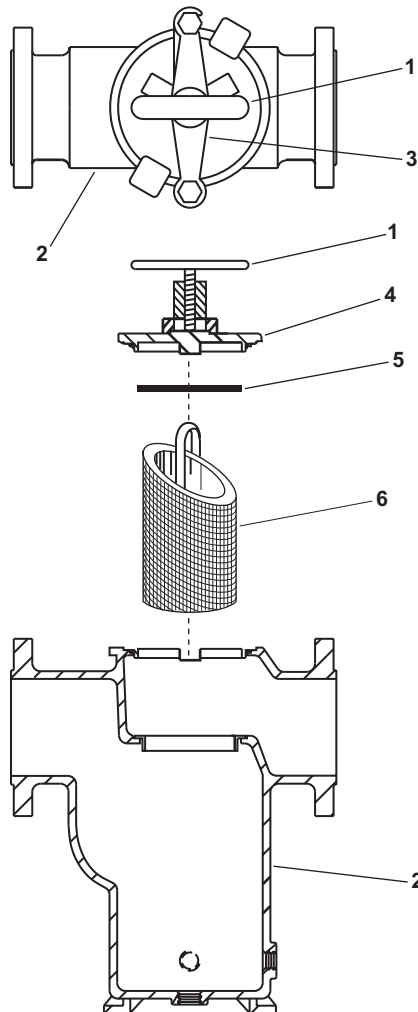

Figure 8. Wet Well Inlet Strainer
3. Loosen the yoke screw (figure 8, item 1) on the wet well inlet strainer (figure 8, item 2).
4. Swing the yoke (figure 8, item 3) clear of the cover (figure 8, item 4) of the wet well inlet strainer (figure 8, item 2).
5. Remove the cover (figure 8, item 4) from the wet well inlet strainer (figure 8, item 2).
6. Remove and discard the gasket (figure 8, item 5).
7. Remove the basket (figure 8, item 6) from the wet well inlet strainer (figure 8, item 2).
8. Clean the basket (figure 8, item 6) with fresh water.
1. Install the basket (figure 8, item 6) in the wet well inlet strainer (figure 8, item 2).
2. Install the cover (figure 8, item 4) and new gasket (figure 8, item 5).
3. Swing the yoke (figure 8, item 3) into place and tighten the yoke screw (figure 8, item 1).